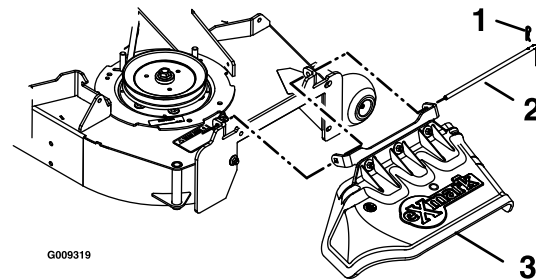

Figure 7
7. Install the discharge deflector using the chute pivot pin and hairpin (see Figure 7).